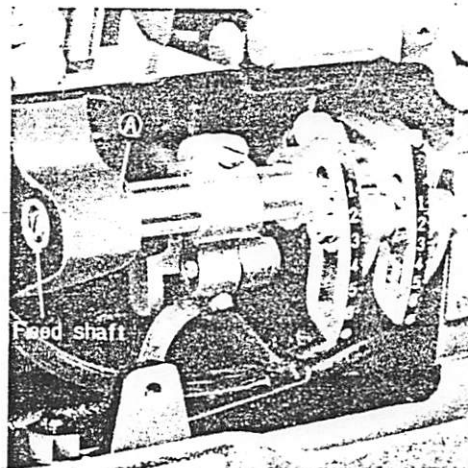

Fig. 37
Turn the pulley and make sure that when the feed dogs are on a level with the top surface of the needle plate they are parallel with that surface. The angle of the dog teeth can be adjusted by loosening the feed shaft set screw (A) (Fig. 37) and turning the feed shaft as required.